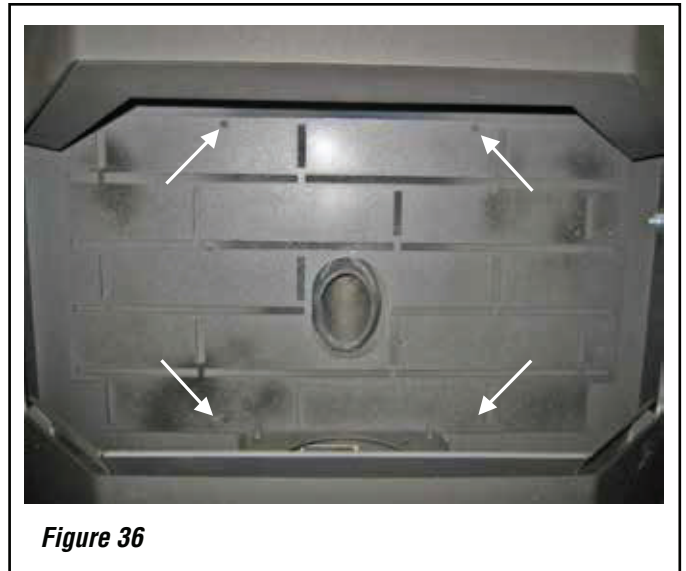

Figure 36
4. Make sure that the brick panel is centered, with equal space on either side of the auger tube. While holding the panel in place, use the drill with a #18 drill bit to drill out the four holes in the back of the firebox, as shown in **Figure 36**.